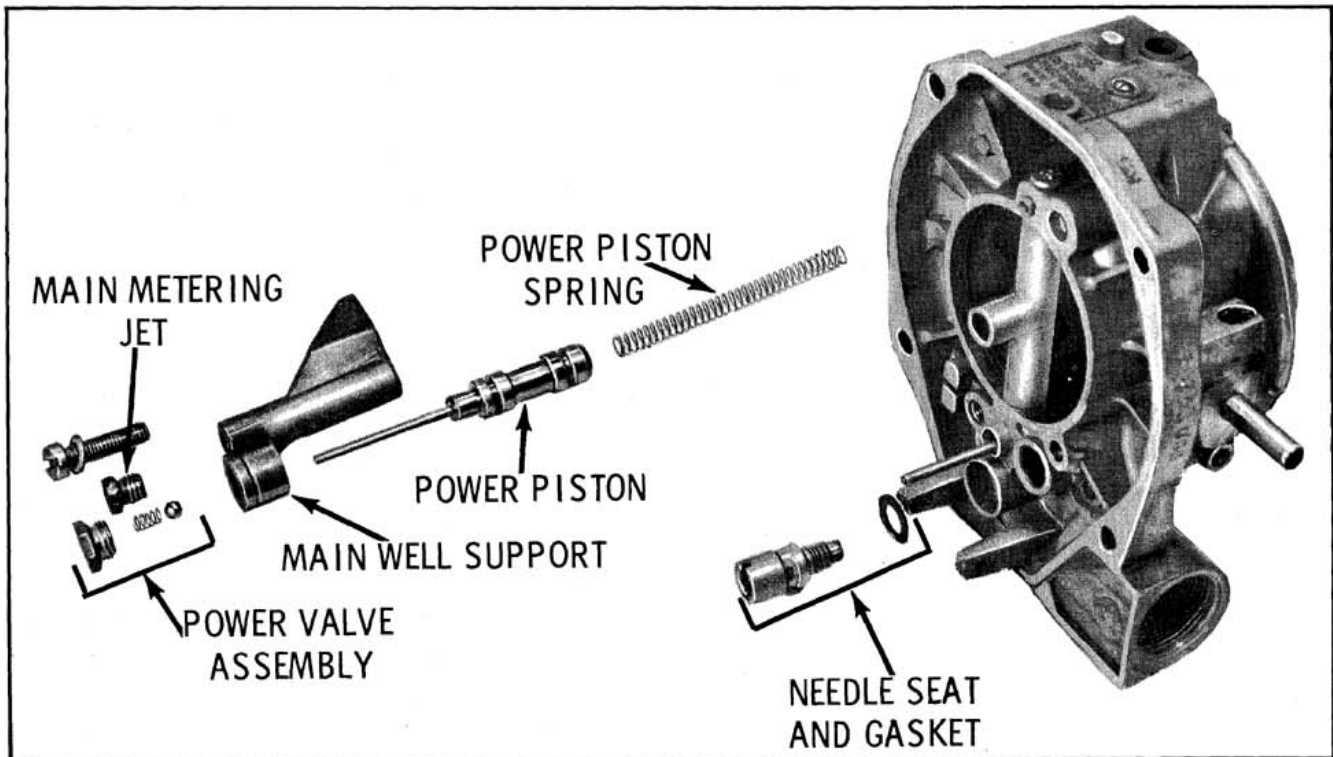

Fig. 4-12 Air Horn
5. Remove main metering jet from bottom of main well support. (Fig. 4-12)
6. Remove hex head power valve check ball retainer from bottom of support, then remove power valve spring and ball. (Fig. 4-12)
7. Remove screw at base of main well support, then remove the main well support from air horn. (Fig. 4-12)